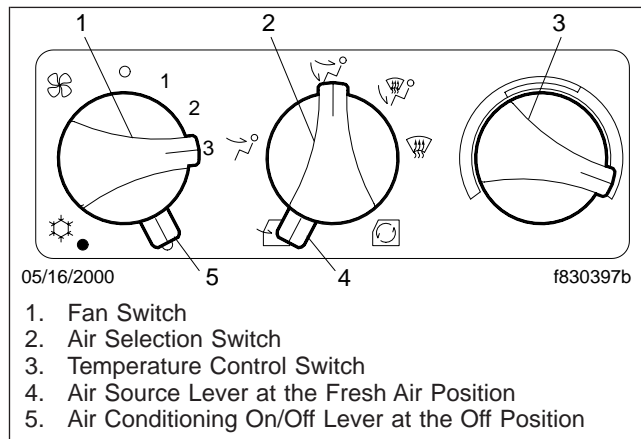

Fig. 3.36, Heating Settings
3. Move the air selection switch to the desired setting and move the air source lever to the fresh air position as shown in Fig. 3.36.